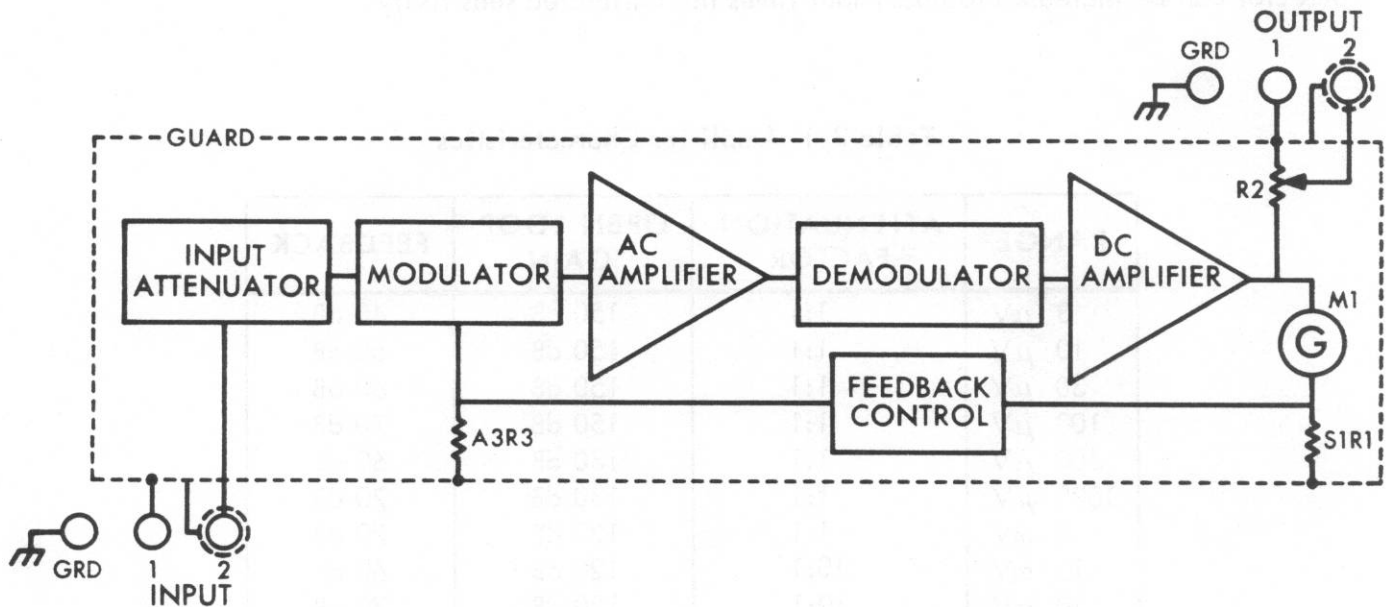

Figure 3.4 Detector Block Diagram
The detector of the Model 801 is a high-sensitivity solid-state dc voltmeter. It has the following basic circuits: (1) an input attenuator, (2) a modulator and demodulator, (3) an ac amplifier, (4) a dc amplifier, (5) a meter, and (6) a feedback control circuit. Figure 3.4 is a block diagram of the detector.